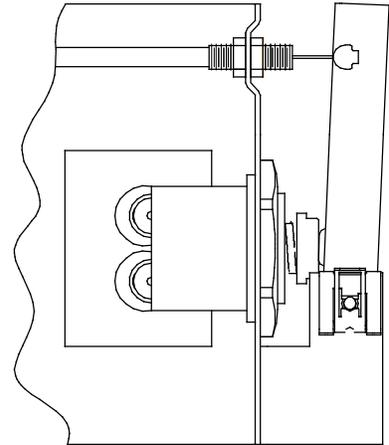

FIG. 4
3. Remove cable free play by adjusting the jam nuts on the ends of the operating cable. See Figure 4.